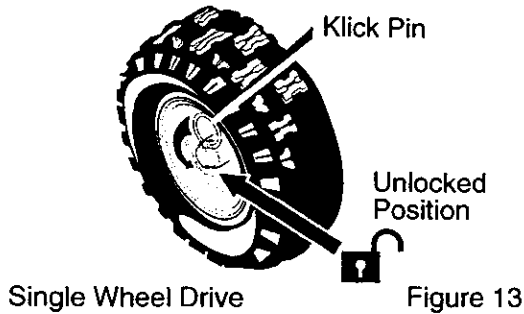

Figure 13
2. For ease of maneuverability in light snow conditions, disconnect the **klick pin** from the wheel **locked position** and push into the single wheel drive position (**unlocked axle hole only**). See Figure 13.